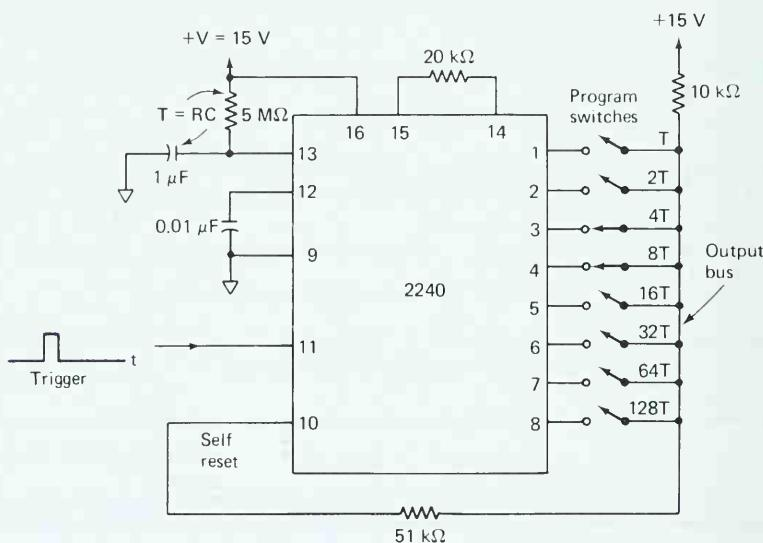
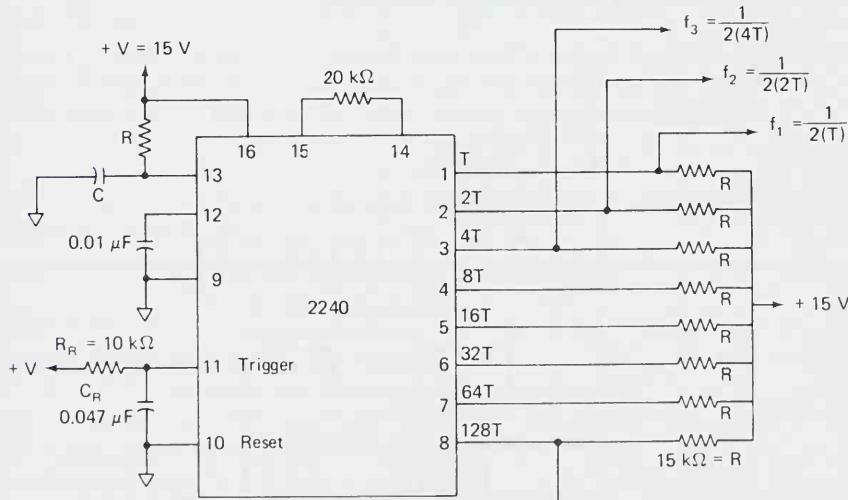
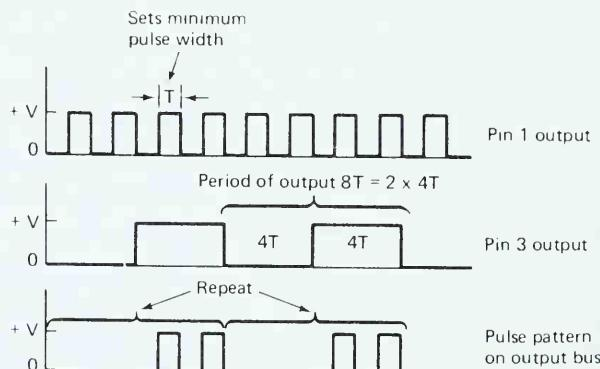

FIGURE 13-18 Programmable timer 5 s to 21 min 15 s in 5-s intervals.
FIGURE 13-19 Free-running oscillator with synchronized outputs.
FIGURE 13-20 Binary pattern signal generator with outputs T and 4T connected to output bus.
The 2240 is wired for monostable operation in the programmable timer application of Fig. 13-18. When the trigger input goes high, the output bus goes low for a timing cycle period equal to T_{sum} (see Section 13-8.3). At the end of the timing cycle, the output bus goes high. The connection from output bus via a $51\text{-k}\Omega$ resistor to reset pin 10 forces the timer to reset itself when the output bus goes high. Thus after each trigger pulse, the 2240 generates a timing interval selected by the program switches.
In Fig. 13-18, $C = 1.0 \mu\text{F}$ and $R = 5 \text{ M}\Omega$ to establish a time base period given by Eq. (13-10) to be 5 s. What is (a) the timing cycle for switch positions shown in Fig. 13-18; (b) the minimum programmable timing cycle; (c) the maximum programmable timing cycle?
The 2240 operates as a free-running oscillator in the circuit of Fig. 13-19. The reset terminal is grounded so that the 2240 will stay in its timing cycle once it is started. When power is applied, R_R and C_R couple a positive-going pulse into trigger input 11 to start the internal time base oscillator running.
In Fig. 13-19, $T = 2.5 \text{ ms}$; what frequencies are present at (a) output 1; (b) output 2; (c) output 3; (d) output 4?
Pulse patterns similar to those shown in Fig. 13-20 are generated by a modified version of Fig. 13-19. The modification requires the eight output resistors to be replaced by program switches and a single $10\text{-k}\Omega$ resistor similar to that shown in Fig. 13-18.
The output is a train of pulses that depends on which program switches are closed. The period of the pulse pattern is set by the highest program switch that is closed, and the pulse width is set by the lowest program switch that is closed. For example, if the $4T$ (pin 3) and $1T$ (pin 1) switches are closed, the pulse pattern is repeated every $2 \times 4T = 8T$ seconds (see Fig. 13-20). The minimum pulse width is $1T$. To determine the actual pulse pattern, refer to the timing chart in Fig. 13-16(b). If switches $1T$ and $4T$ are closed, there is an output pulse only when there are high output pulses from each line. The repeating pulse patterns are shown in Fig. 13-20.
- 13-15.** In Example 13-9, C is changed to $0.1 \mu\text{F}$ and R to $500 \text{ k}\Omega$. Find **(a)** the time base period; **(b)** the timing cycle for switch positions shown in Fig. 13-18; **(c)** the maximum timing cycle.